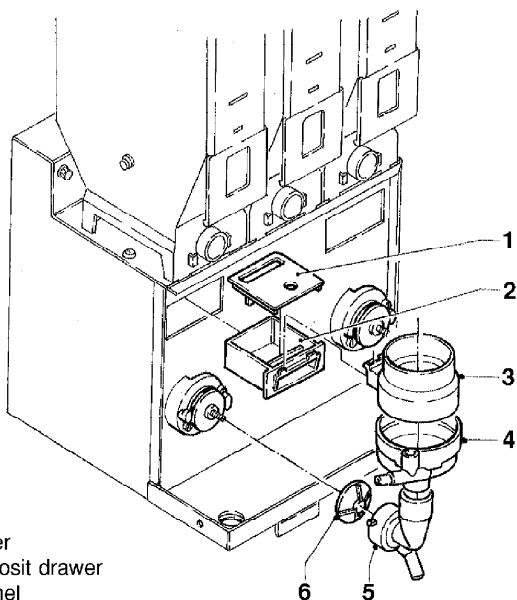

Figure 6
- Remove the powder and the water funnels, the feeders, the powder deposit drawers and the mixer blades from the mixers (see Figure 6);